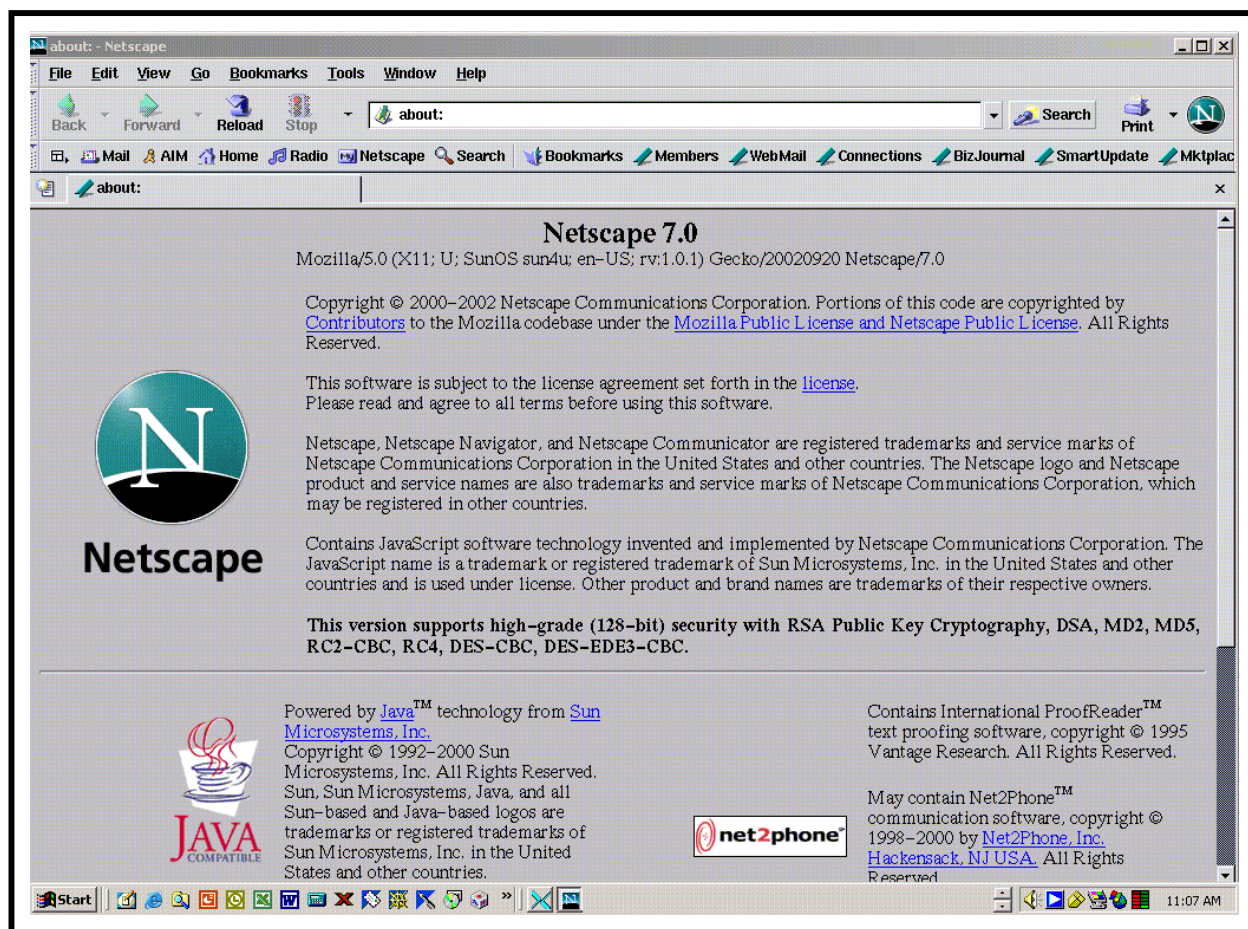

Figure 21. Netscape Web Browser
- The Netscape web browser (Figure 21) is displayed.